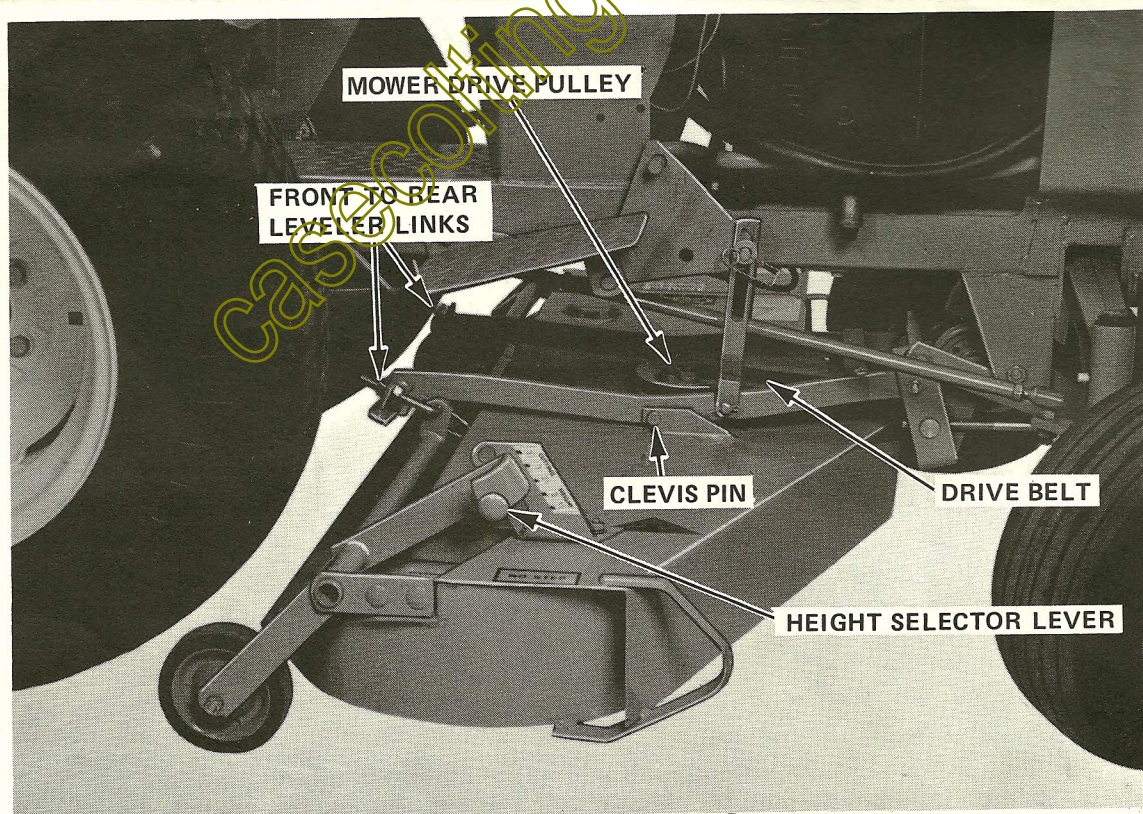

FIGURE 16 MOUNTING THE J-46 MOWER CHASSIS
Raise the lawn mower to the 2-1/2" (65 mm) position. Lower the mounting bracket to the lawn mower chassis. See Figure 16.
7. Fasten the leveler links to the mounting bracket as shown in Figure 16.